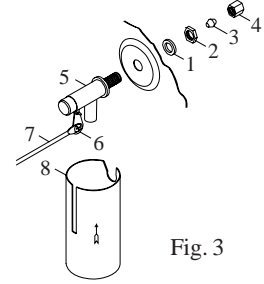

Fig. 3
- **Install float valve and fill pan.** Refer to Fig. 3. Remove items 1, 2, 3, and 4. Insert float body (5) through hole in back post panel as shown. Install washer (1) and nut (2). Tighten to keep float from turning. Place nut (4) and ferrule (3) on water supply line. Connect to float fitting and tighten until water tight. Loosen screw (6) and adjust rod (7) until water level is within 1" of top of reservoir. Tighten screw (6). Slide float body shield (8) up over float body (5) until it snaps into place.